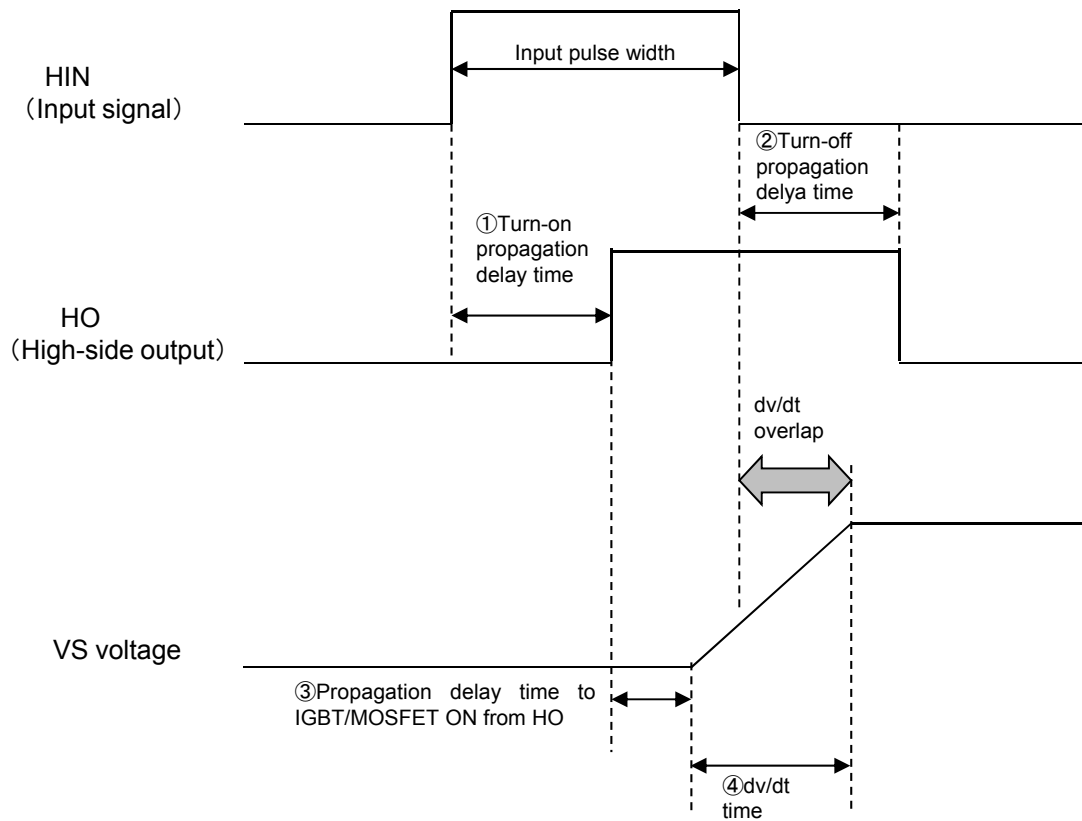

Fig.17 Malfunction timing chart due to narrow pulse input
In high-side circuit, if narrow pulse signal is input, the overlap may occur between turn-off propagation delay time(Fig.17②) and dv/dt of VS voltage(Fig.17④). At this time, OFF signal may not be transmitted due to a logic filter circuit which prevents malfunction by dv/dt . Please set long enough pulse input.